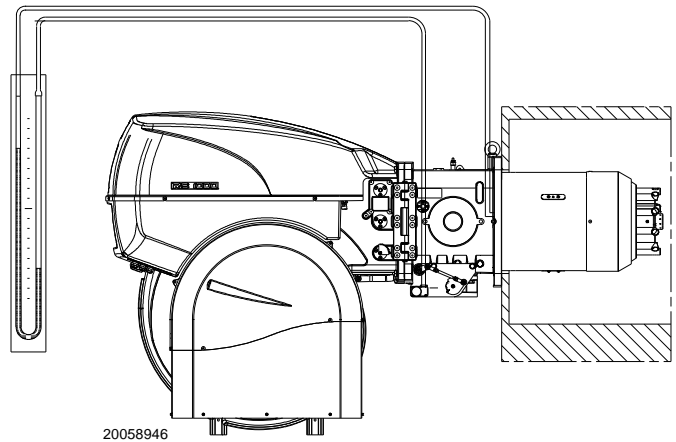

Fig. 26
- Fit a U-type pressure gauge or a differential pressure gauge (Fig. 26), with socket (+) on the gas pressure of the pipe coupling and (-) in the combustion chamber. Used to approximately calculate the MAX burner output.
The arrival of gas at the pipe coupling is indicated by the U-type pressure gauge (Fig. 26).